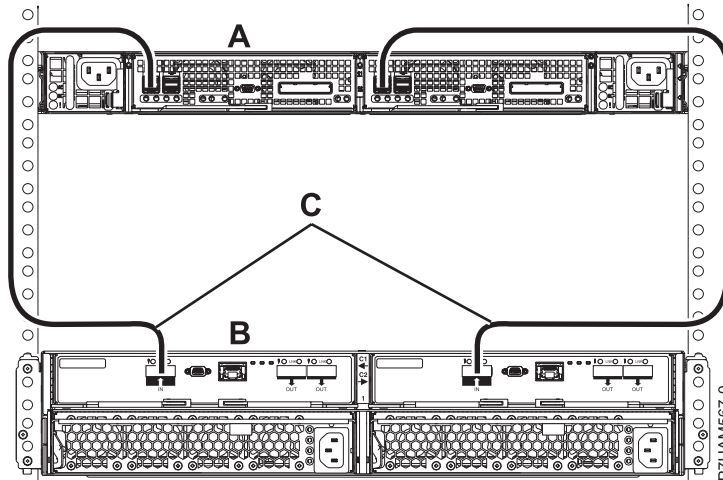

Figure 32. Mode 1 connection of one 58/87 disk drive enclosure by using EX cables to a PCIe storage enclosure
- m. Perform the mode 1 connection of one 58/87 disk drive enclosure (B) by using EX cables (C) to a PCIe storage enclosure with support for SAS disk drawers (A) as shown in Figure 32 on page 30.
- Each internal adapter in the PCIe storage enclosure (A) has access to the other adapter and to all disk drive bays.
- Both EX cables (C) from the same 58/87 disk drive enclosure must be attached to the same numbered port on the PCIe storage enclosure as shown in Figure 32 on page 30.